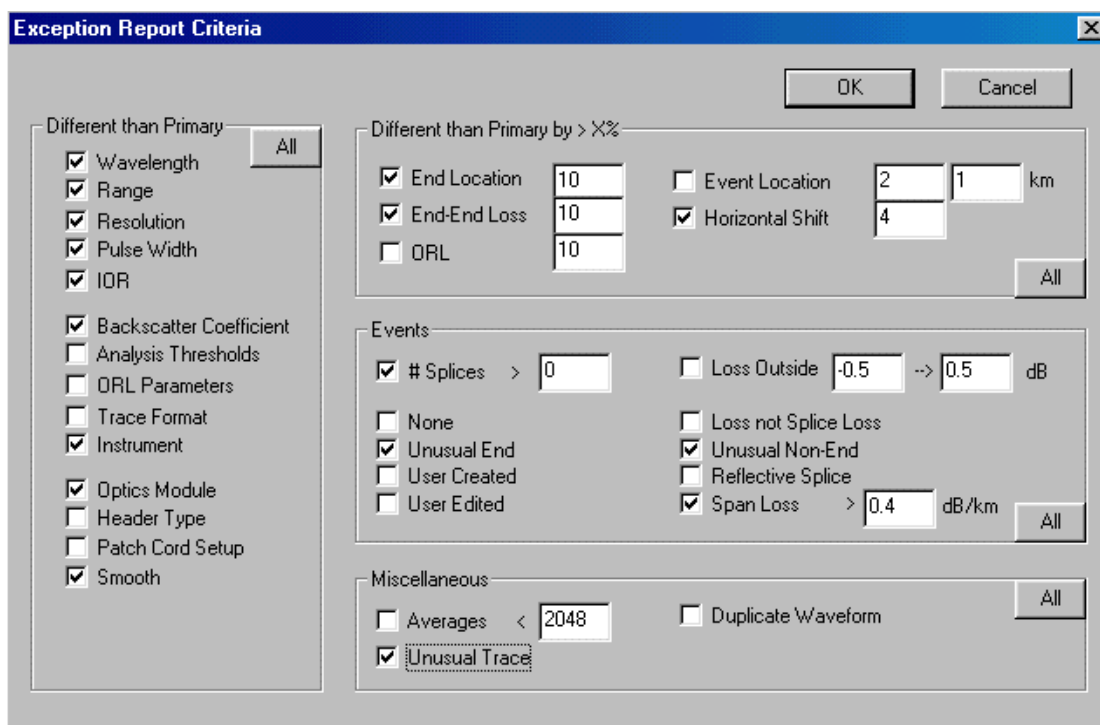

Figure F-2: Exception Report dialog box
7. Select the desired criteria in the Exception Report dialog box (Figure F-2) and click **OK**.